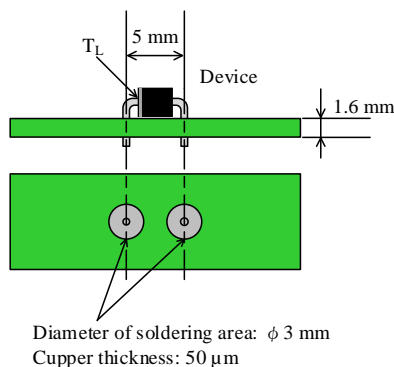

Figure 1. Lead Temperature Measurement Conditions
(1)  $R_{th(J-L)}$  is thermal resistance between junction and lead. Lead temperature ( $T_L$ ) is measured near the root of pin (see Figure 1).
(2) See Figure 1 for the lead temperature measurement conditions.